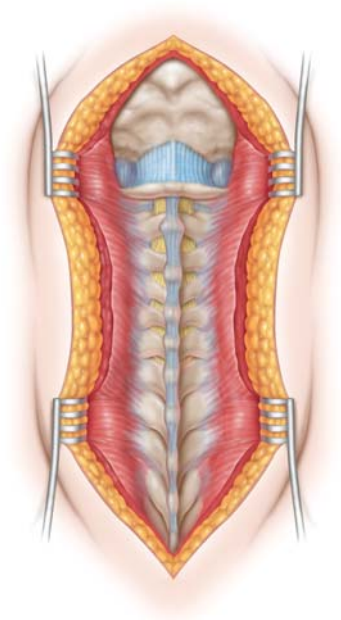

Figure 1
- A standard midline sub-periosteal exposure of the portion of the cervical and thoracic spine to be fused is carried out. A wide exposure extending to the lateral aspect of the facet joints in the cervical spine and the transverse processes in the thoracic spine is achieved. Extend the exposure to the external occipital protuberance (EOP) if the fusion will include the occiput (Figure 1).